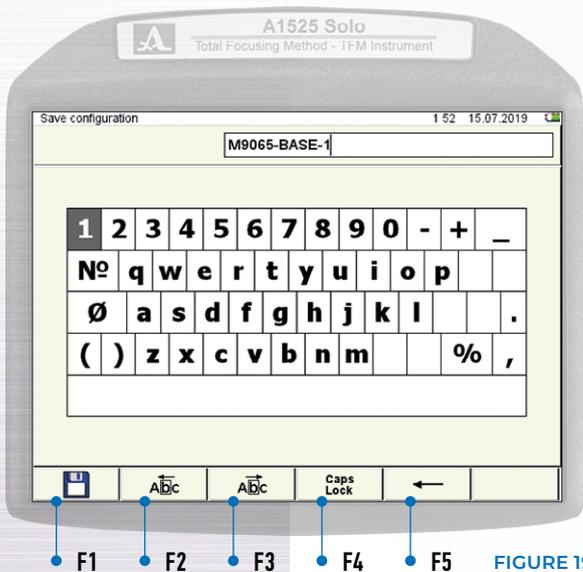

FIGURE 19
- f. The screen shown in Figure 19 will be displayed.